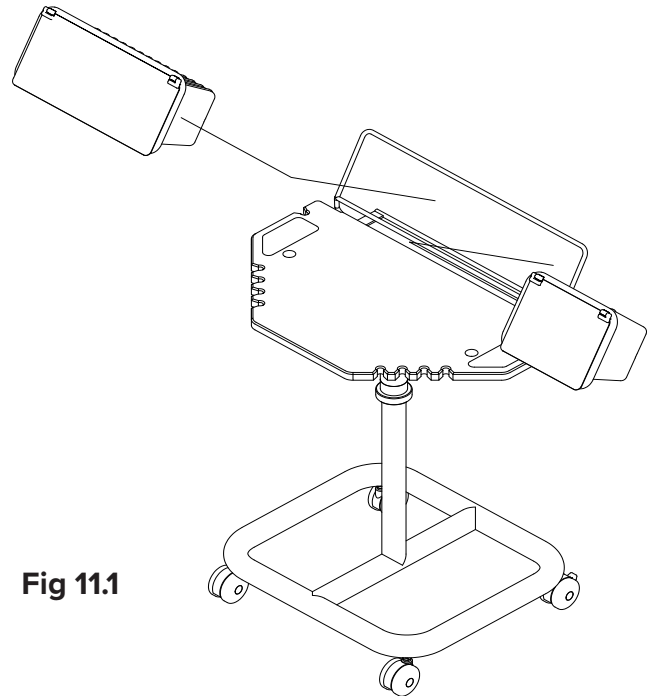

Fig 11.1
1. Resupply and Medical Bins are placed in the lower portion of the Bin Frame (Fig 11.1).